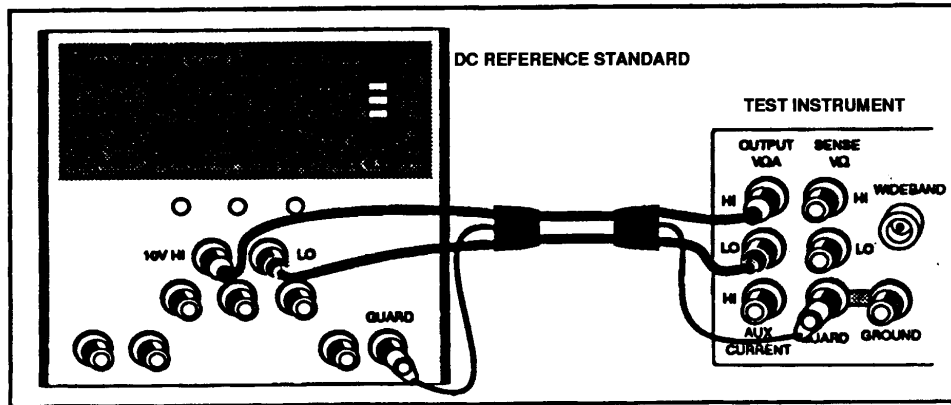

Figure 2. 10 V internal calibration.
- e. Connect equipment as shown in figure 2.